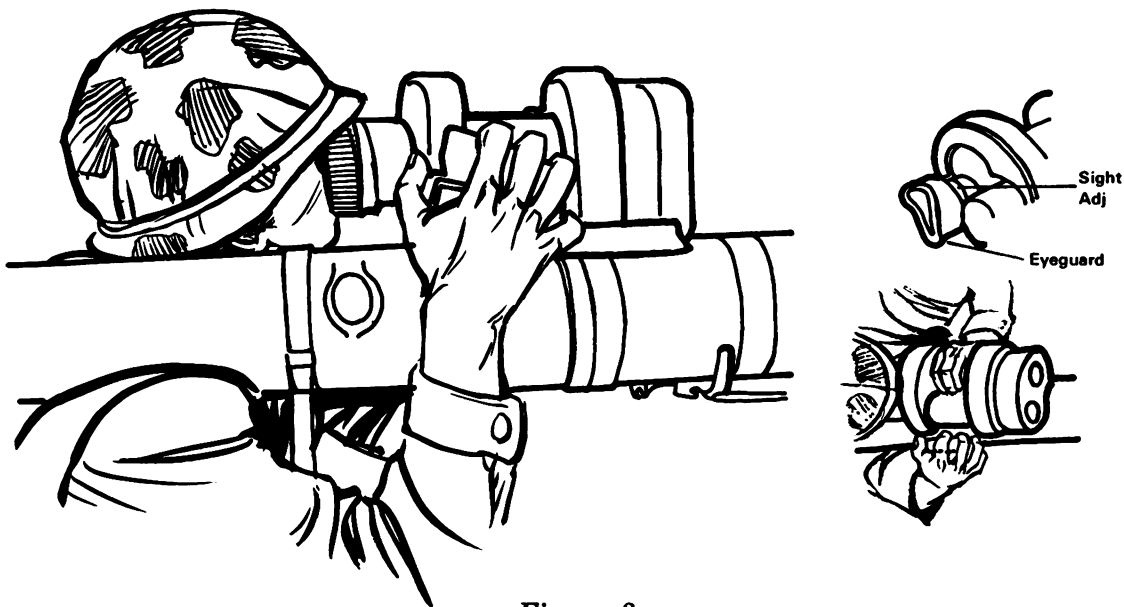

Figure 3.
c. Position the right hand on the trigger mechanism with the thumb on the safety plunger, three fingers on the trigger bar, and the little finger in front of the trigger mechanism, as shown in figure 3.